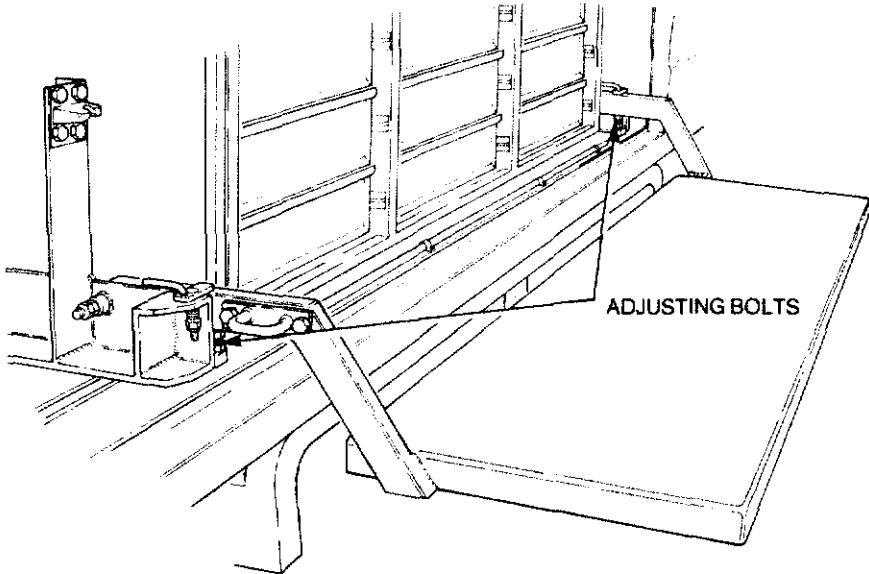

Figure 4-15 Bench level adjusting bolts
- b. Slacken the bench level adjusting bolts lock nuts (see Fig. 4-15) and turn the bolts clockwise to lower and counter-clockwise to raise the level of the bench.